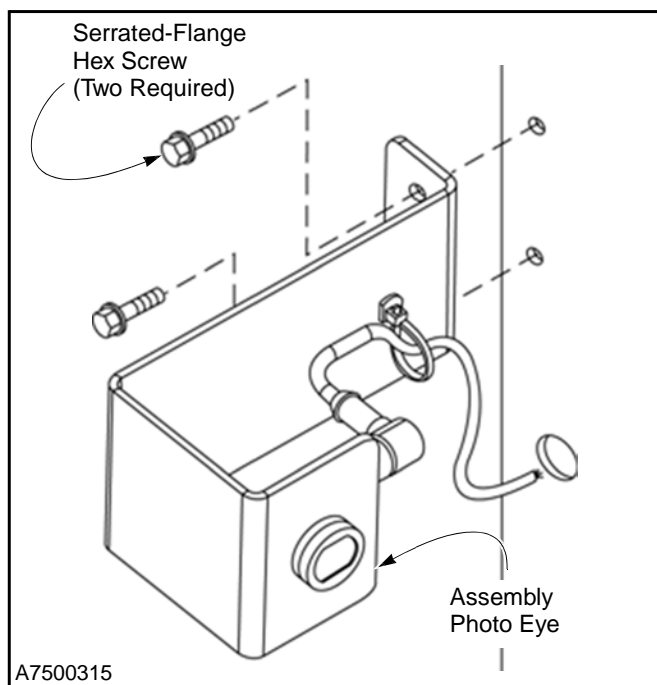

Figure 33
1. Install the photo eye assembly on the motor mount side column with two $\frac{1}{4}$ -20 x $\frac{3}{4}$ -in. serrated-flange hex screws. The mounting holes are located approximately 40 in. from the floor. (See Figure 33.)